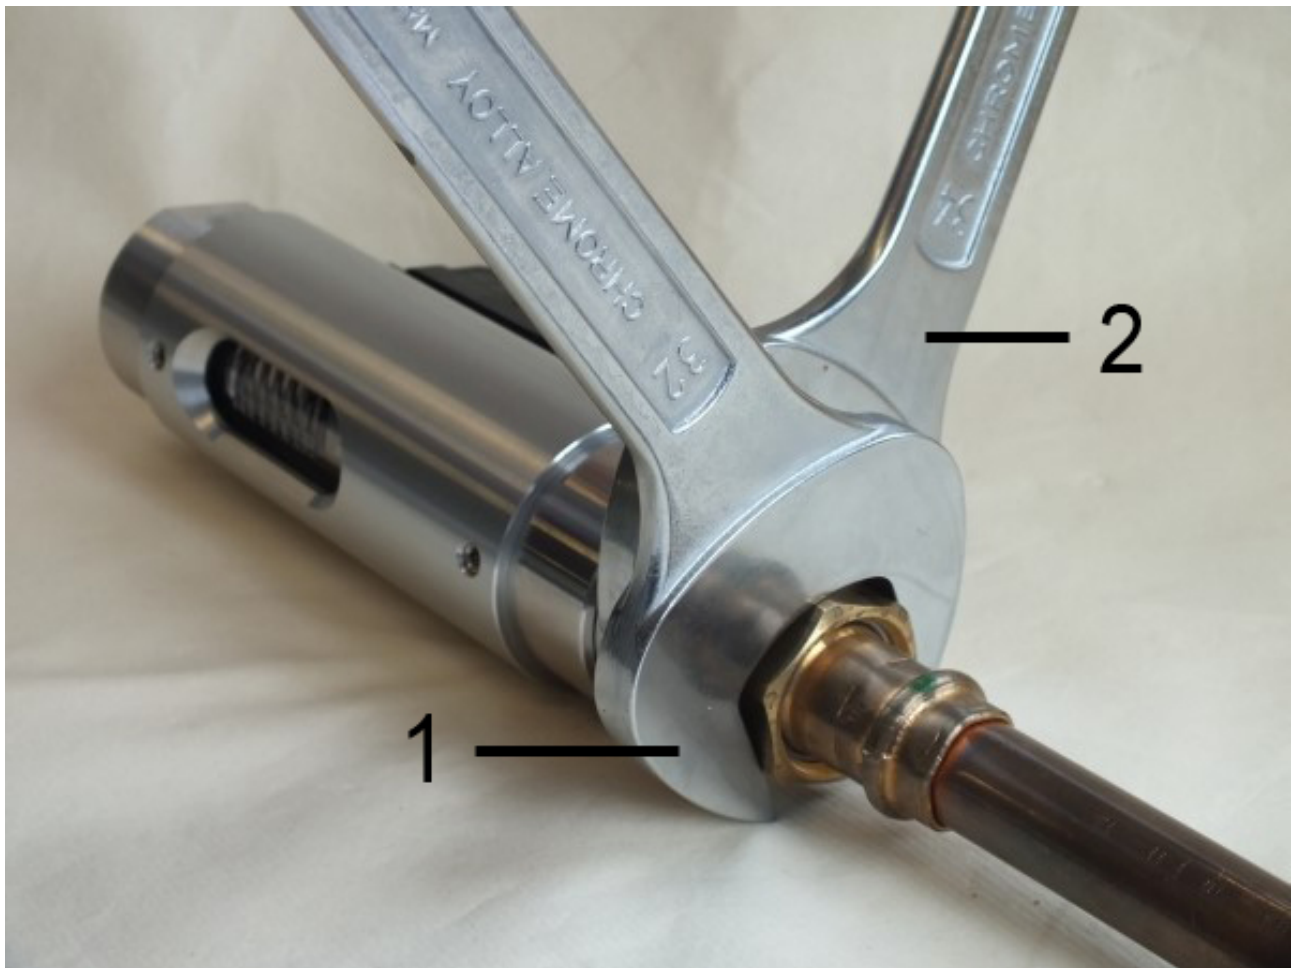

Fig. 11: Screw in the device
2. ➡ Fasten the adapter union of the pipeline with an appropriate spanner (*Fig. 11/1*). When doing so, lock the process connection in place to prevent slip, using a suitable spanner (*Fig. 11/2*)